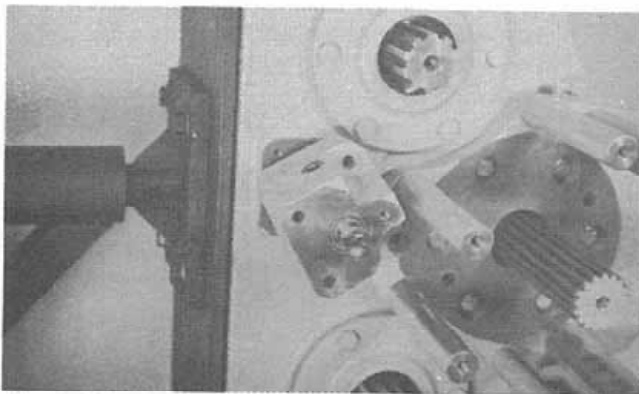

Figure 28:
22. Place a new detent block gasket over the adjusting block. Lubricate the bore of the detent block and oil seal and install the block (Fig. 28). Apply sealant to the detent block capscrews and torque them 35 to 40 lb. ft. (4.84 to 5.53 Kg/M). Install the shift cable bracket and long detent block capscrews. Apply sealant and torque them in the same manner.